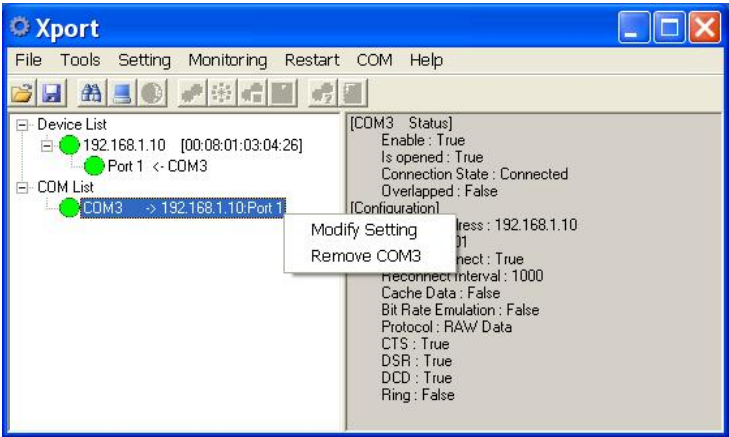

Fig 54. COM List
2. COM List: Click right button of mouse on the COM port to show as Fig 54.
Click right button of mouse on the COM List to show as Fig 54.